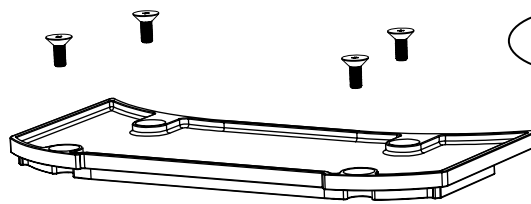

Figure 2.
3. Remove the controller top over by removing the 4x screws. (See figure 2)